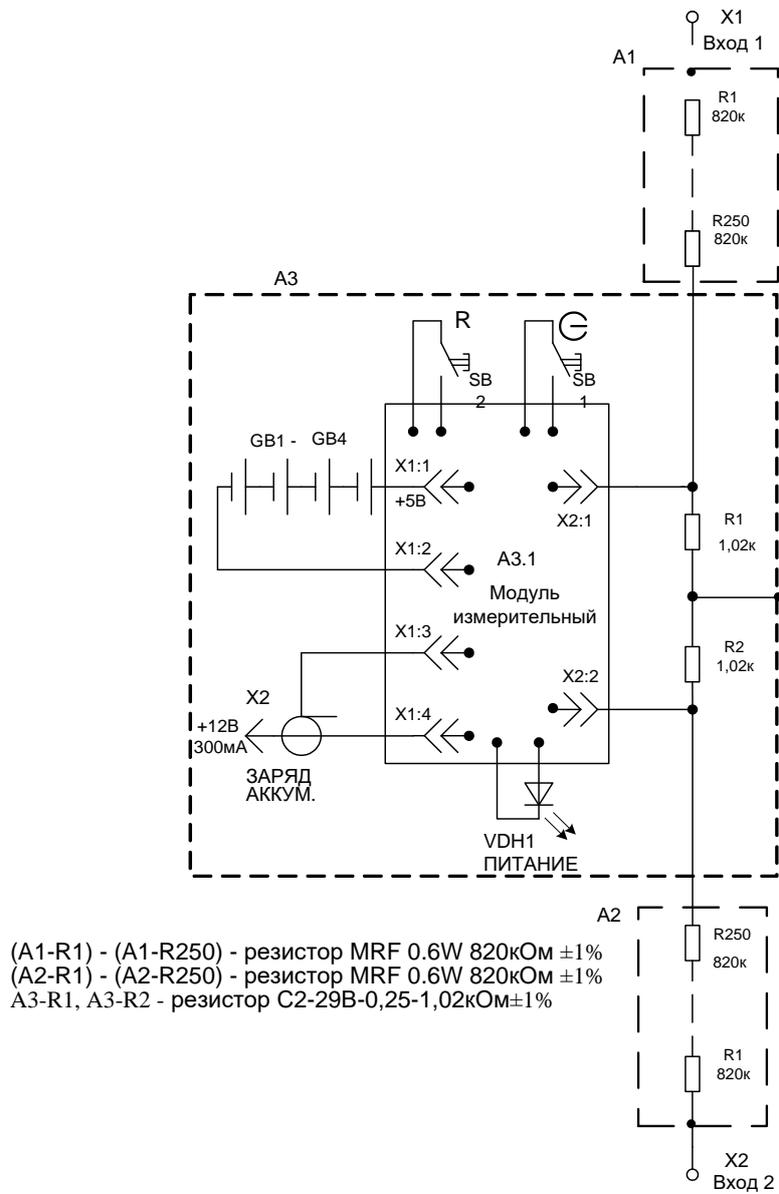
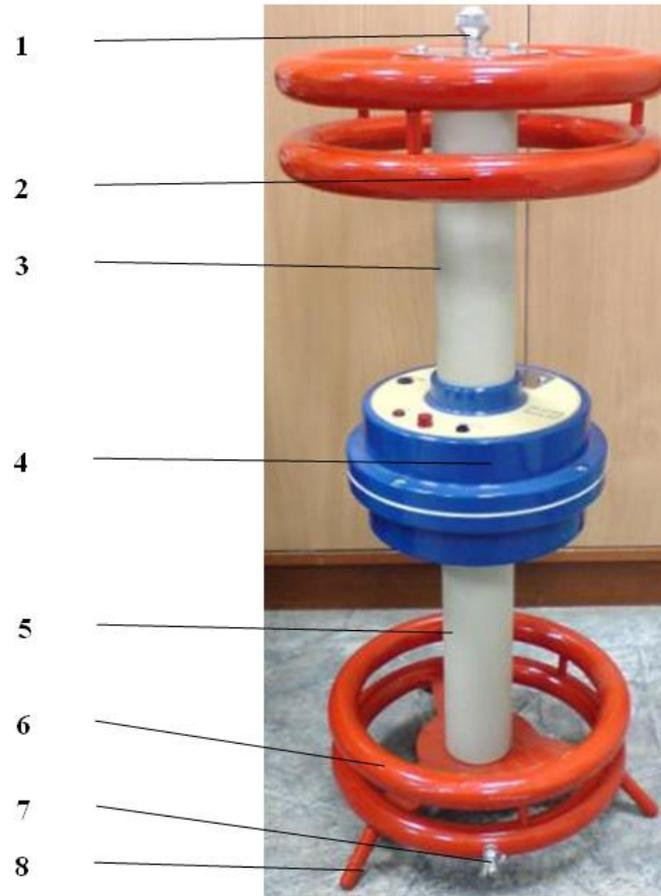

Figure 1. High-voltage unit RD-140-HVU.
Figure 2. High-voltage unit RD-140-HVU. General view.
1.5.3 Electrical schematic diagram of the high-voltage unit RD140- HVU is shown in Figure 1, the appearance – in Figure 2.
Resistive divider of the unit surrounded by a conductive cylindrical screens, which are electrically connected with the ends conclusions dividers (see. Figures 1 and 2).